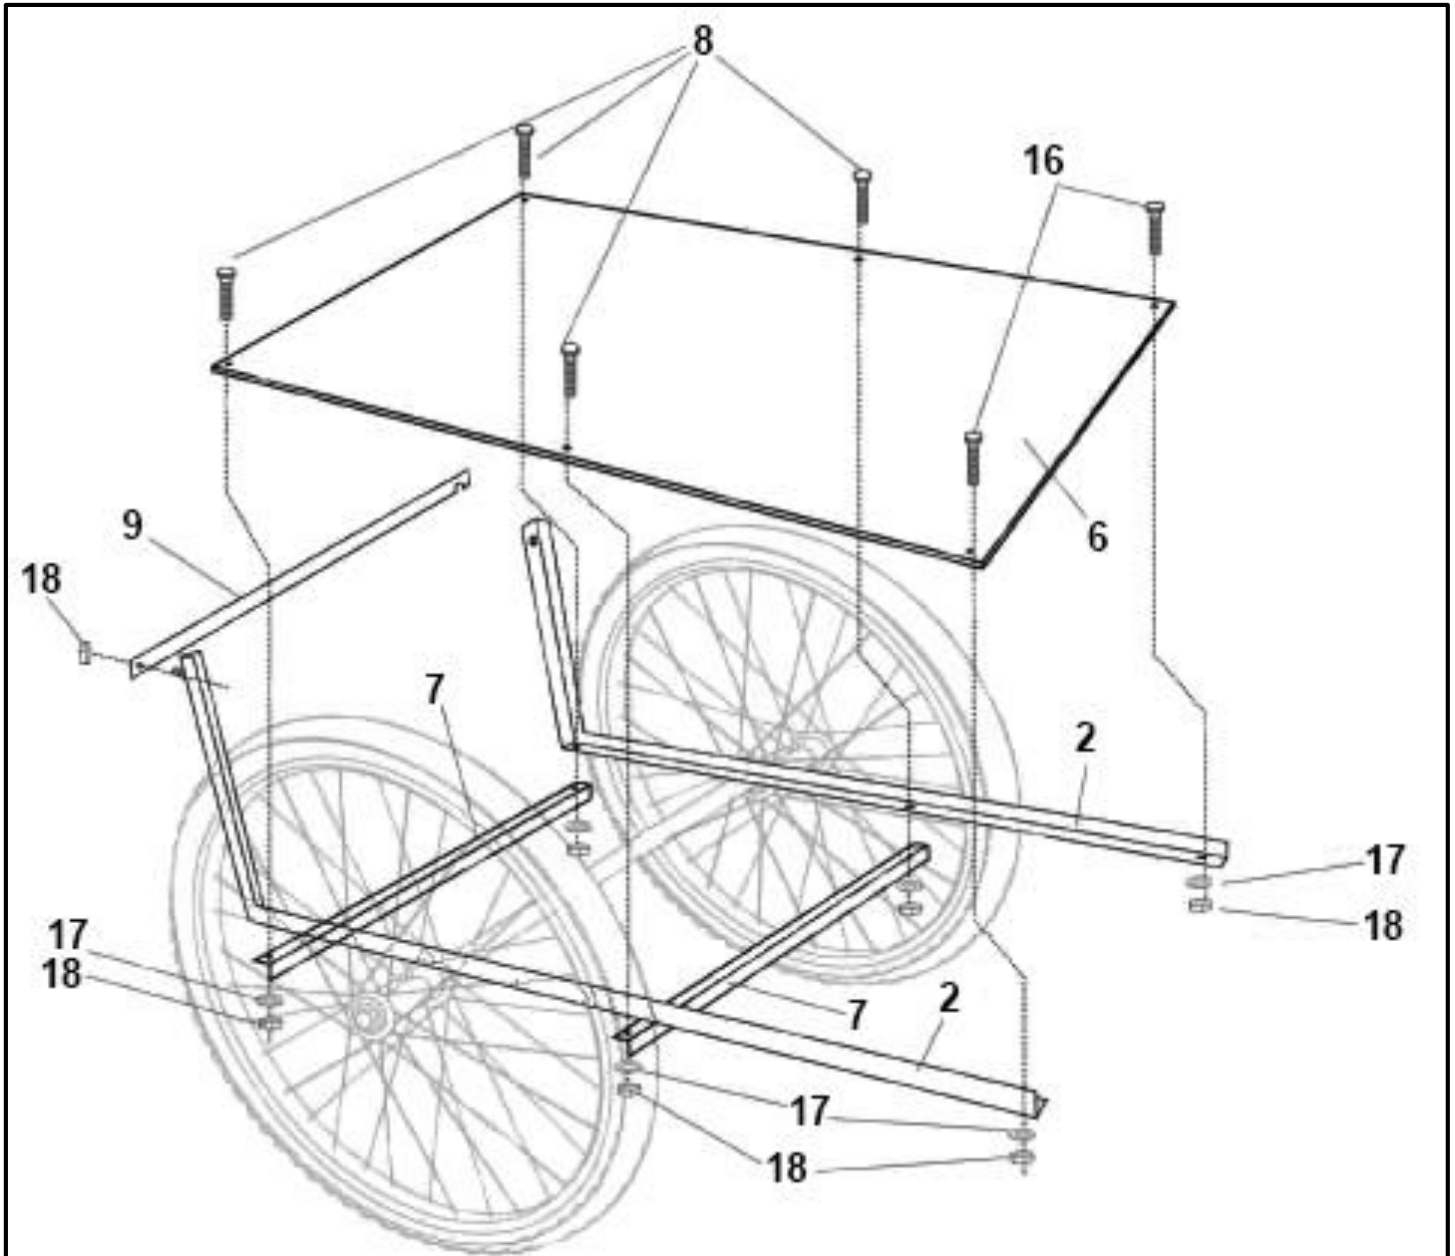

Figure 2
**SECOND** – Attach Wood Floor Bed (See Figure 2)
1. Put Wood Floor Bed (6) onto L-Shaped Frame (2).
2. Attach Wood Floor Bed (6), L-Shaped Frame (2) and Support Frame (7) together, tightening with Bolt (8) and (16), Washer (17) and Lock Nut (18).
3. Assemble Rear Connect Bar (9) on L-Shaped Frame (2) with Lock Nut (18).